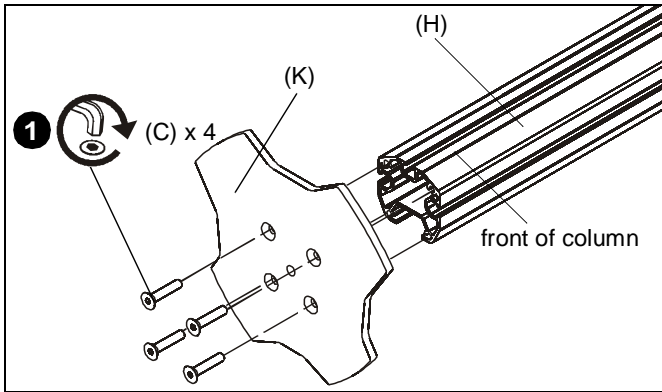

Figure 1
1. Use four 1/4-20 x 1 1/4" flat head cap screws (C) to secure grommet plate (K) to column arm (H). Make sure longer legs of grommet plate are aligned with the front of column. (See Figure 1)